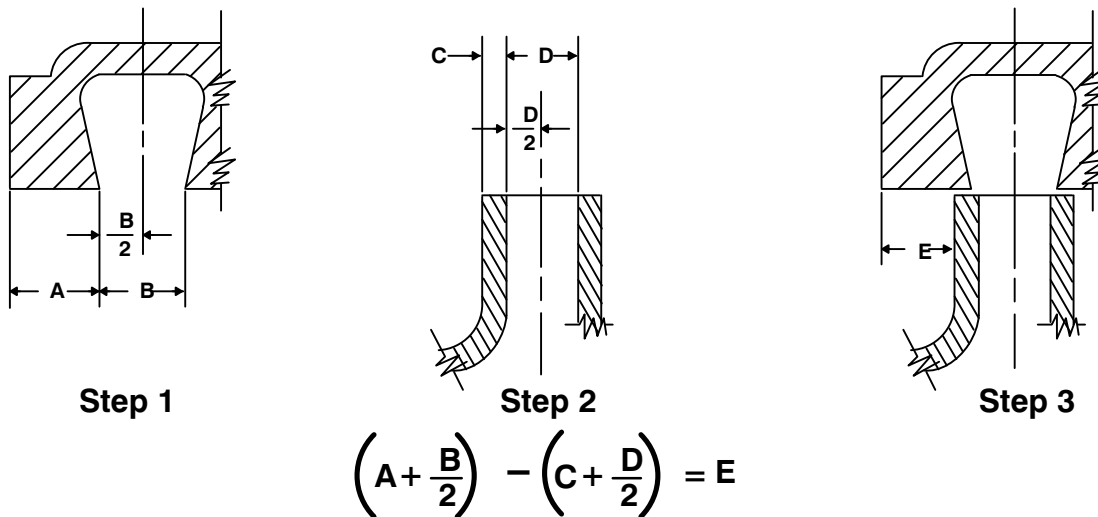

Figure 3. Centering Impeller Within Vane Plate Scroll
To verify the impeller positioning, measure the vane plate and impeller as shown in Figure 3. Use these measurements to calculate the required impeller location (dimension E). Add or remove impeller adjusting shims (17) until dimension E is obtained.